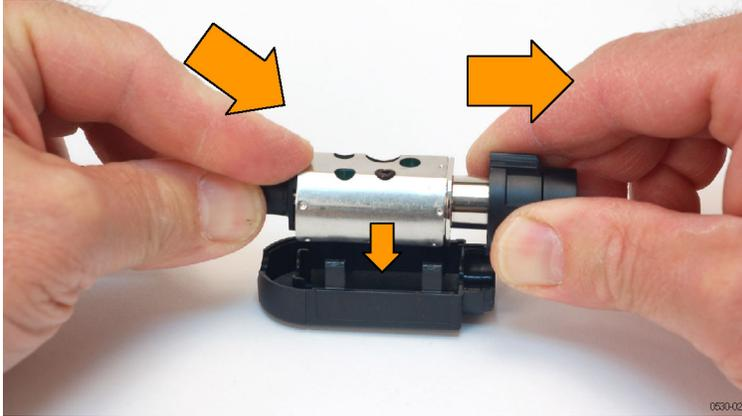

Figure 11: Align and seat the probe into the bottom cover
2. Install the shield over the circuit board so that the shield covers the metal ends of the board housing. (See Figure 11.)
4. Verify that the metal shield is properly located. (See Figure 11.) Align the top cover onto the probe, beginning at the cable end. As you seat the cover onto the connector end of the probe, pull out the connector to allow the cover to clear the connector and to engage with the bottom cover.